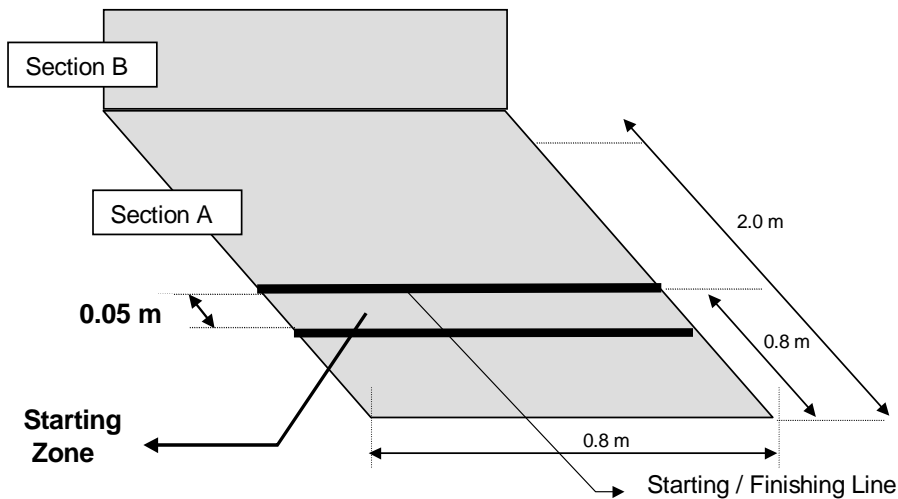

Figure 2: The starting zone for the wall-climbing robot race viewed from above wall-section A
3.1 Robots will start from a stationary position with the front-most part of the robot lying within a 0.05 m deep starting zone demarcated by the inner edges of the two lines positioned across wall section A on the ground. (see Figure 2 below)